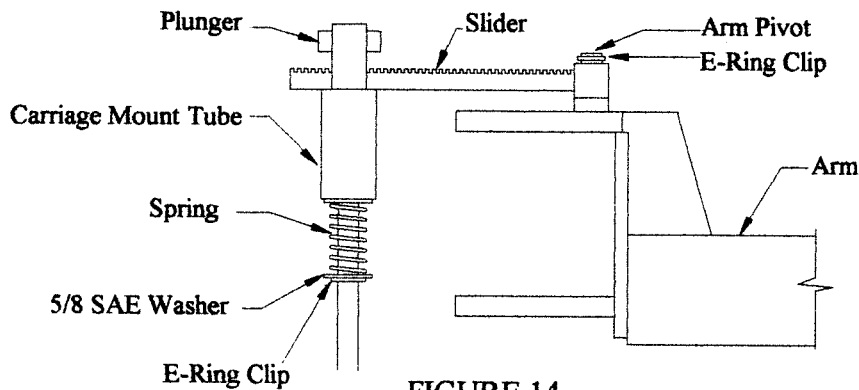

FIGURE 14
39. Refer to Figure 14 on the following page. Attach the arm lock parts as shown.